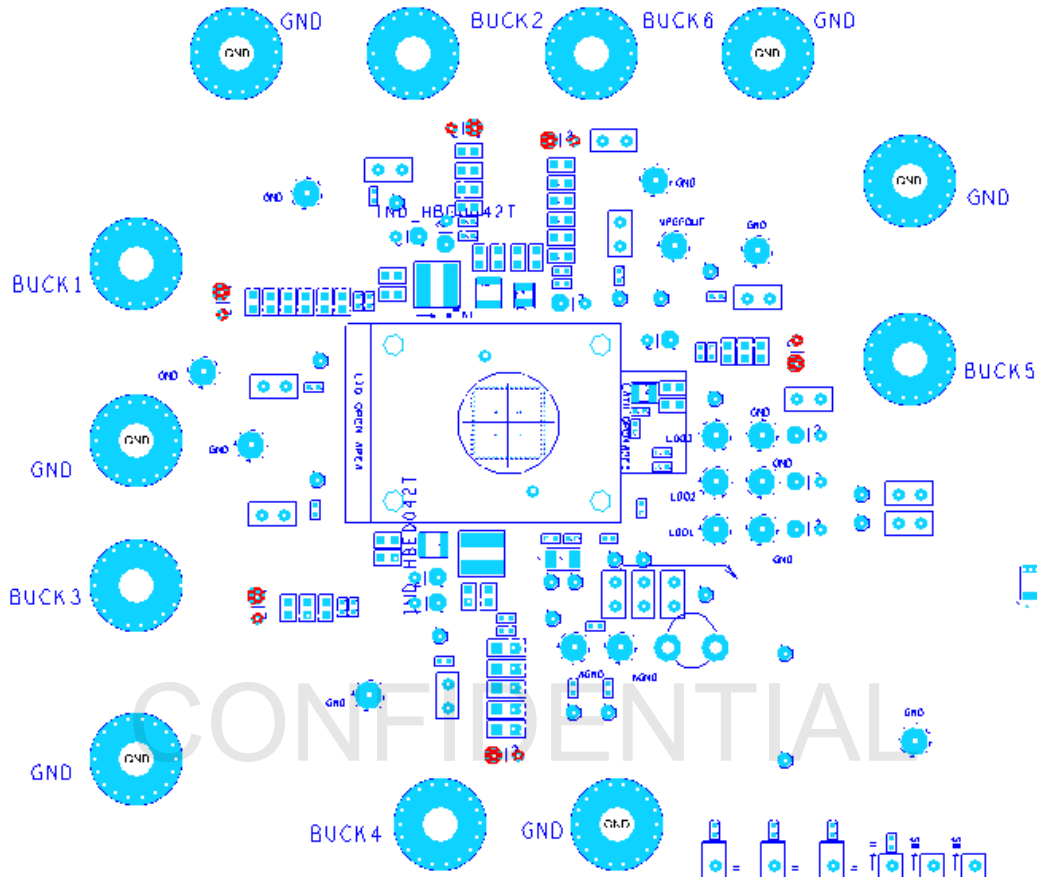

Figure 10. Locations for Measurement of Buck Regulator Output Voltages
- Figure 10 shows locations on the PCB where the buck regulator output voltages can be measured accurately. For each buck regulator, there is a pair of pads with holes to which wires, pins, or connectors can be soldered, or an oscilloscope probe can be connected. The larger of each pair of pads is the positive; the smaller pad is ground.